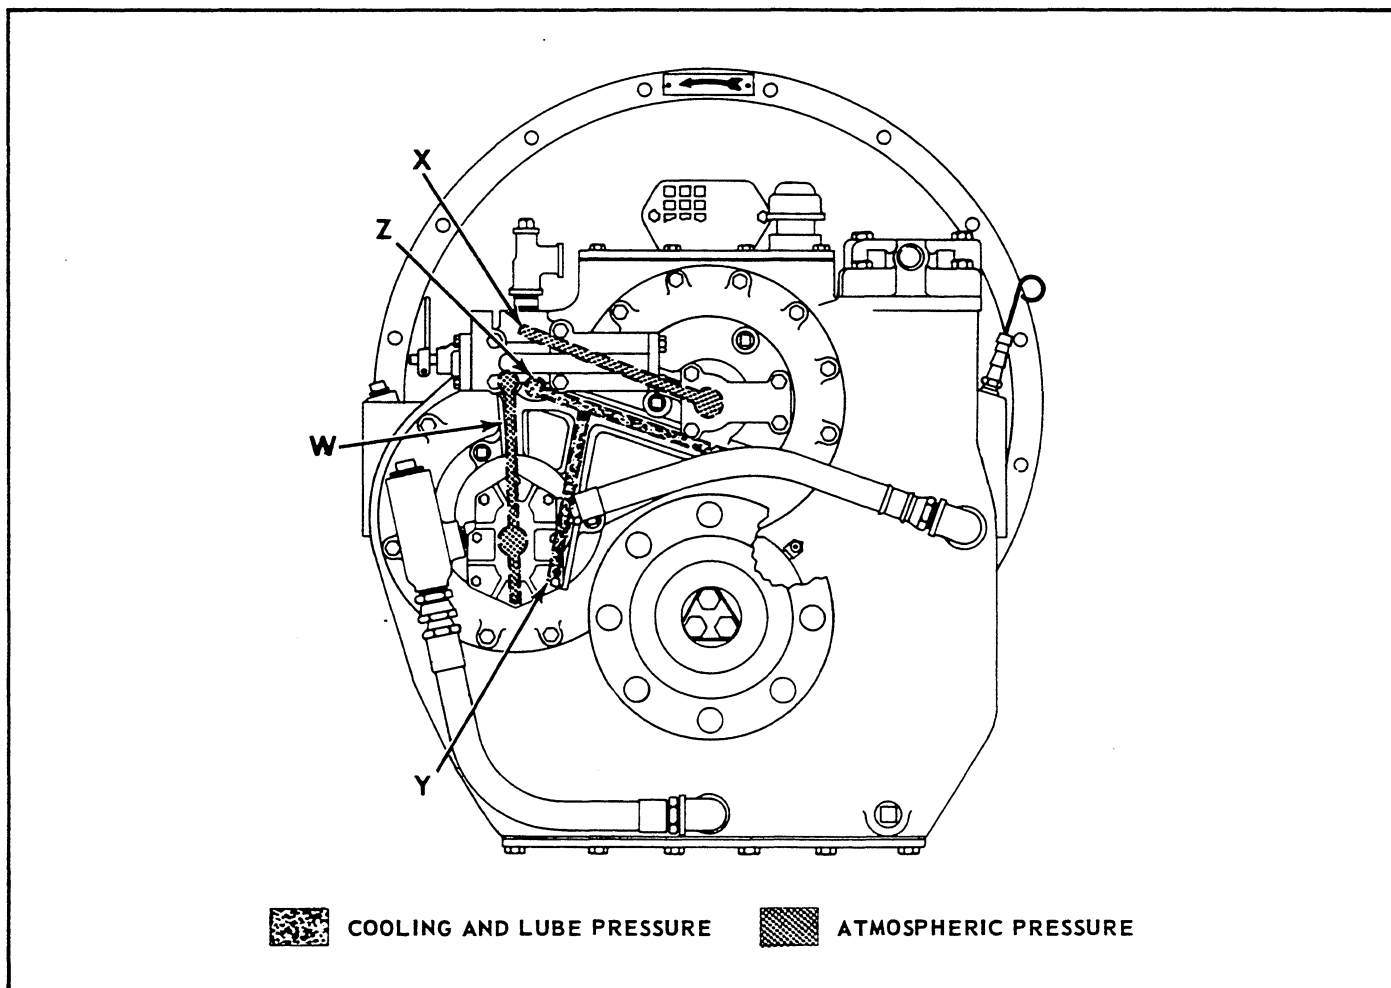

Figure 16. MG-514 Marine Gear Oil Flow - Neutral - External View.
A. Oil Flow—Neutral (figs. 16 & 17). Some of the 18-20 psi oil in the oil return pipe cavity of the selector valve body is metered through the orifice in the return pipe piston. This oil lubricates the forward and reverse pinions, the forward and reverse pinion roller bearings, the clutch spider ball bearings, and the reverse driving and driven gear ball bearings in all positions of the selector valve. The remainder of the 18-20 psi oil in the return pipe cavity is distributed by channel Z in the manifold which directs cooling oil to the forward clutch through an orifice plug installed in the manifold. Branch channel Y in the manifold is interconnected with channel Z and directs cooling oil to the reverse clutch through another orifice plug located in the manifold. The pressurized oil which is metered through the orifice plugs is directed to an area between the front face of the manifold and the rear face of the clutch cylinders. From this area the oil passes through drilled holes in